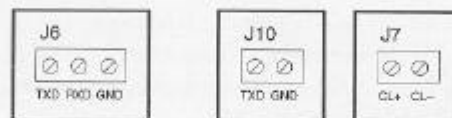

Figure 2-7: Connection assignments for all serial communication terminals
For indicators housed in a Stainless Steel enclosure, COM1 is realized in J6 while COM2 is realized in both J10 (RS-232) and J7 (CL). Connection assignments for all serial communication terminals are shown in Figure 2-7.